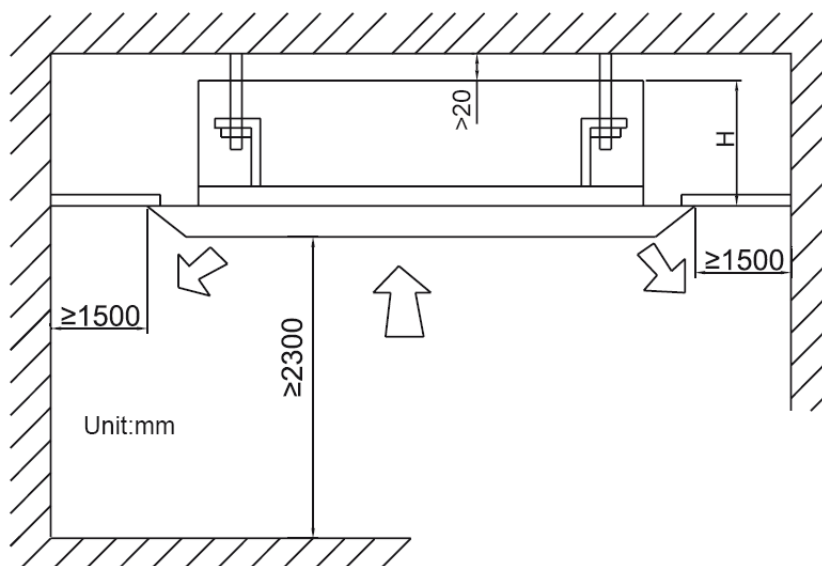

Fig.5
- (1) Installationsskiss (Fig.5)